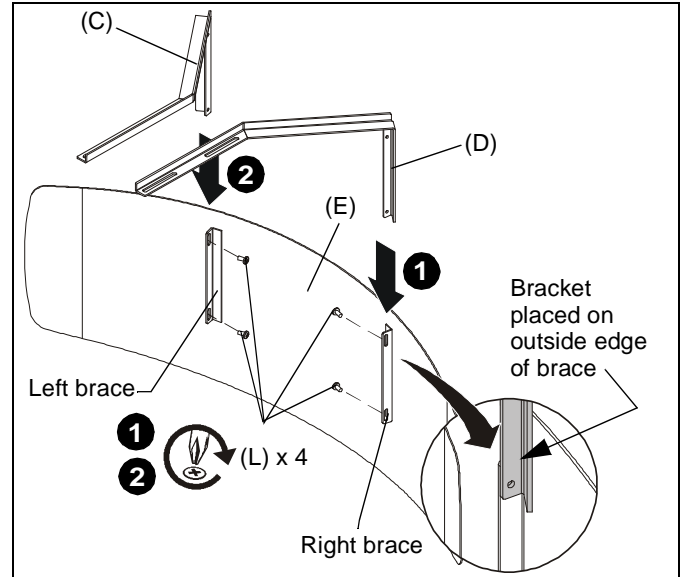

Figure 21
1. Align right valence bracket (D) along **outside** of right brace on back of valence (E), and fasten with two 10-24 x 1/2" Phillips pan head machine screws (L). (See Figure 21)
2. Align left valence bracket (C) along **outside** of left brace on back of valence (E), and fasten with two 10-24 x 1/2" Phillips pan head machine screws (L). (See Figure 21)